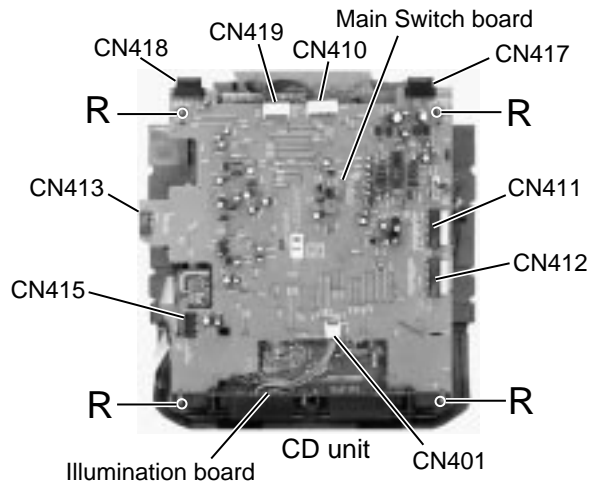

Fig.22
■ **Removing the main switch board and illumination board. (See Fig.22)**